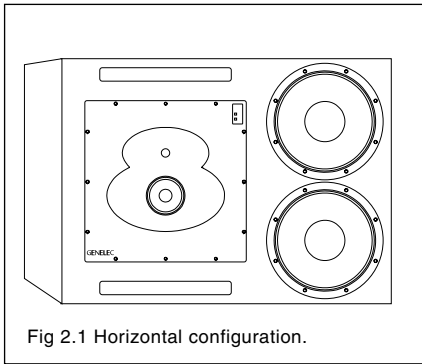
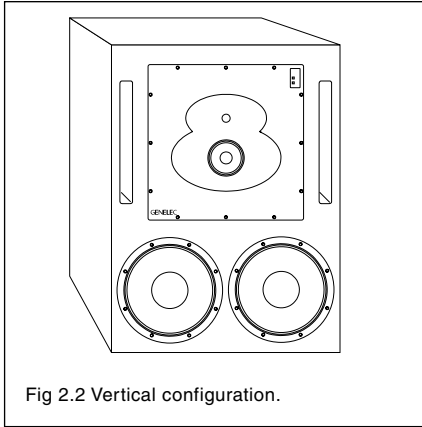

Fig 2.1 Horizontal configuration.
Fig 2.2 Vertical configuration.
The loudspeaker has its acoustical axis midway between the midrange and treble drivers. This axis should be used as the listening and measuring axis of the system. (See Fig 2.1 and Fig 2.2)
- Set the microphone 1 m away from the loudspeaker on the acoustic axis. (See Fig 2.1 and 2.2)